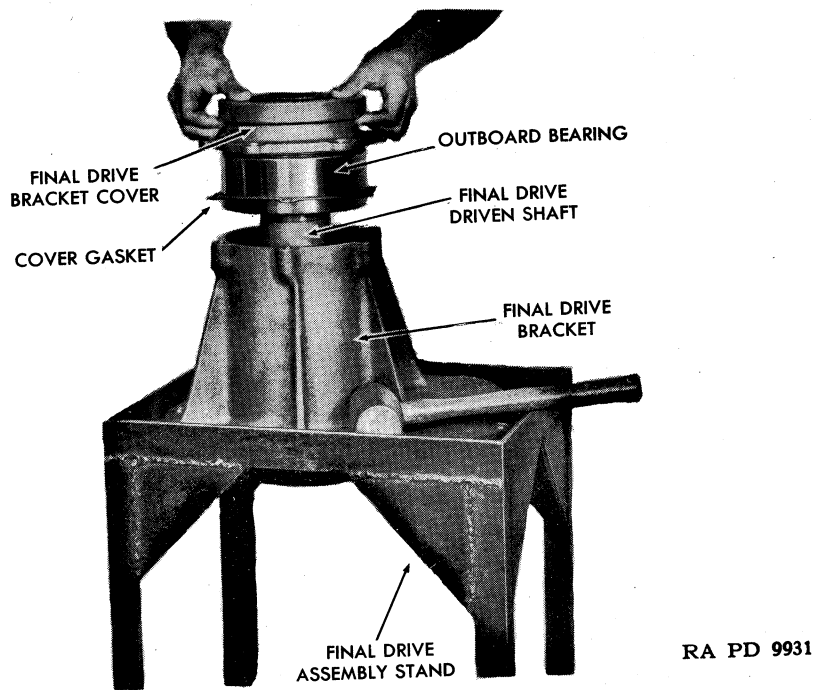

FIGURE 89—Installation of driven shaft and bearing in final drive bracket.
40. Assembly (figs. 89, 90 and 91).—Support final drive bracket as shown in figure 89. Place a new cover gasket over driven shaft and allow it to remain on the outer bearing (fig. 89). Install shaft in bracket and tap bearing into recess by driving on the flanged end of shaft. Align cover and gasket with holes in bracket and install six cap screws ($\frac{3}{4}$ -in.